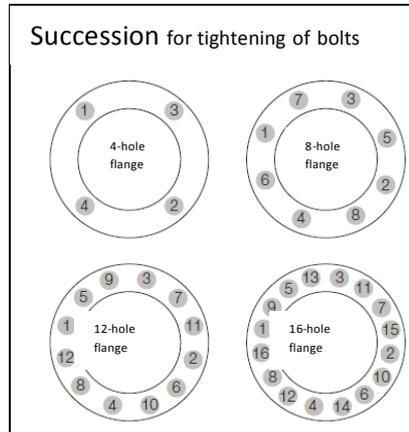

Fig. 4
3. At first, tighten the bolts finger-tight around the circle, then tighten them crosswise (see Fig. 4 and catalogue) and evenly.